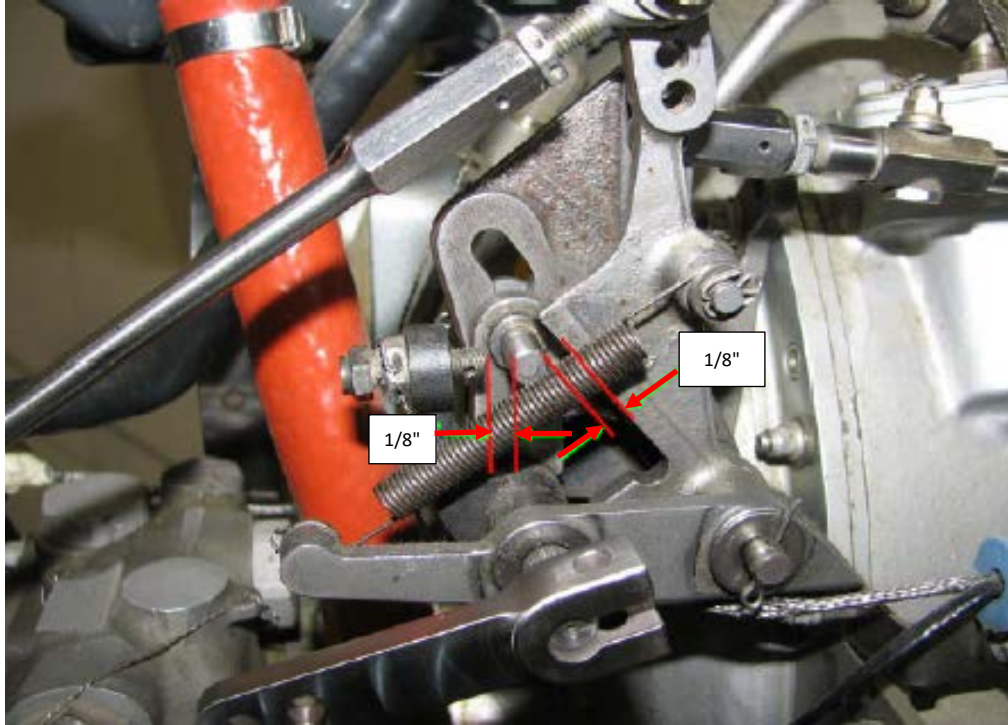

Figure 76-40 - Dead band Gaps on Both Sides of Cam Follower Pin (FCU Arm at Pickup)
- L. With the FCU arm at the pick-up point, reconnect the upper end of the FCU interconnect rod, and verify that when held at this position, there is approximately an  $1/8$ " gap between the cam follower pin and the FCU actuating lever. There should also be approximately  $1/8$ " between the cam follower pin and the reversing dead-band adjustment screw, as illustrated in Figure 76-40. Make adjustments as necessary.